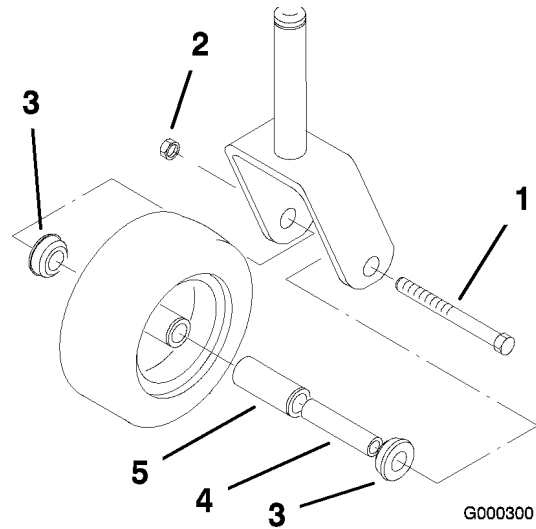

Figure 44
1. Remove the locknut and wheel bolt holding the caster wheel to the caster fork (Figure 44).
2. Remove one bushing, then pull the spanner bushing and roller bearing out of the wheel hub (Figure 44).
3. Remove the other bushing from the wheel hub and clean any grease and dirt from the wheel hub (Figure 44).
4. Inspect the roller bearing, bushings, spanner bushing and inside of the wheel hub for wear. Replace any defective or worn parts (Figure 44).
5. To assemble, place one bushing into the wheel hub. Grease the roller bearing and spanner bushing and slide them into the wheel hub. Place the second bushing into the wheel hub (Figure 44).
6. Install the caster wheel into the caster fork and secure with the wheel bolt and locknut. Tighten the locknut until the spanner bushing bottoms against the inside of the caster forks (Figure 44).